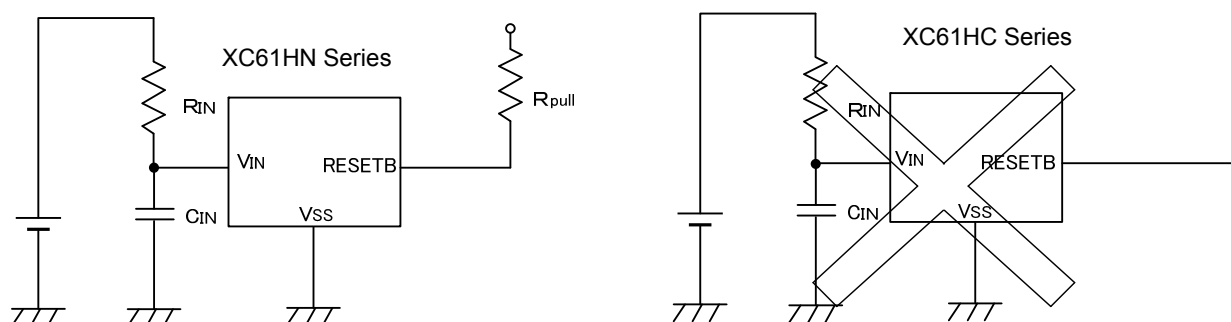

Figure 1 Use of input resistor R_{IN}
2. When a resistor is connected between the V_{IN} pin and the input with CMOS output configurations, irregular oscillation may occur as a result of voltage drops at R_{IN} if load current (I_{OUT}) exists. It is therefore recommend that no resistor be added. (refer to Figure 1 below)
3. When a resistor is connected between the V_{IN} pin and the input with CMOS output configurations, irrespective of N-ch output configurations, oscillation may occur as a result of shoot-through current at the time of voltage release even if load current (I_{OUT}) does not exist. (refer to Figure 1 below)
Further, please ensure that R_{IN} is less than $10k\Omega$ and that C_{IN} is more than $0.1\mu F$ (Figure 1). In such cases, detect and release voltages will rise due to voltage drops at R_{IN} brought about by the IC's supply current.